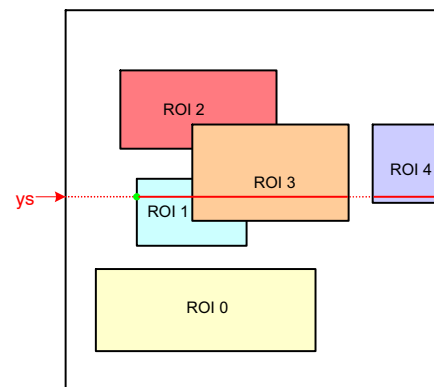

Figure 28. Scanning the Image Array with Five Windows
Figure 28 illustrates a practical example of a configuration with five windows. The current position of the
- The read pointer is not necessarily incremented by one, but depending on the configuration, it can jump in y-direction. In Figure 28, this is the case when reaching the end of ROI0 where the read pointer jumps to the y-start position of ROI1